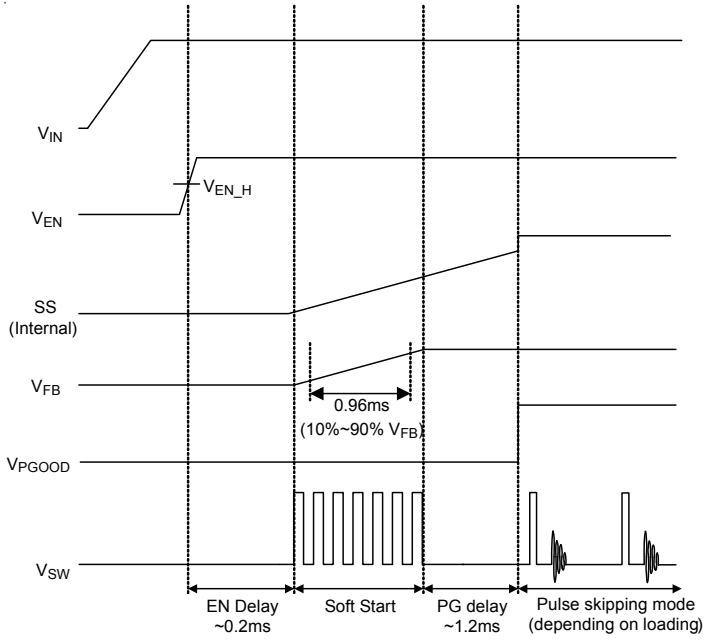

Figure 1. Power Up Sequence which is Following Internal Soft-Start
The enable input (EN) has a logic-low level of 0.74V. When V_{EN} is below this level the IC enters shutdown mode and supply current drops to less than 1 μ A. When V_{EN} exceeds its logic-high level of 0.92V the IC is fully operational. When V_{EN} exceeds its logic-high level, the pre-regulator turns on first. The power up sequence from EN logic high to PGOOD go high is shown as Figure 1.